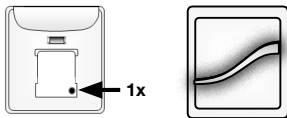

Fig. 3
- A. Press and release the program button on the back side of the secondary control once (1 tap). The LED will flash green. (Fig. 3)